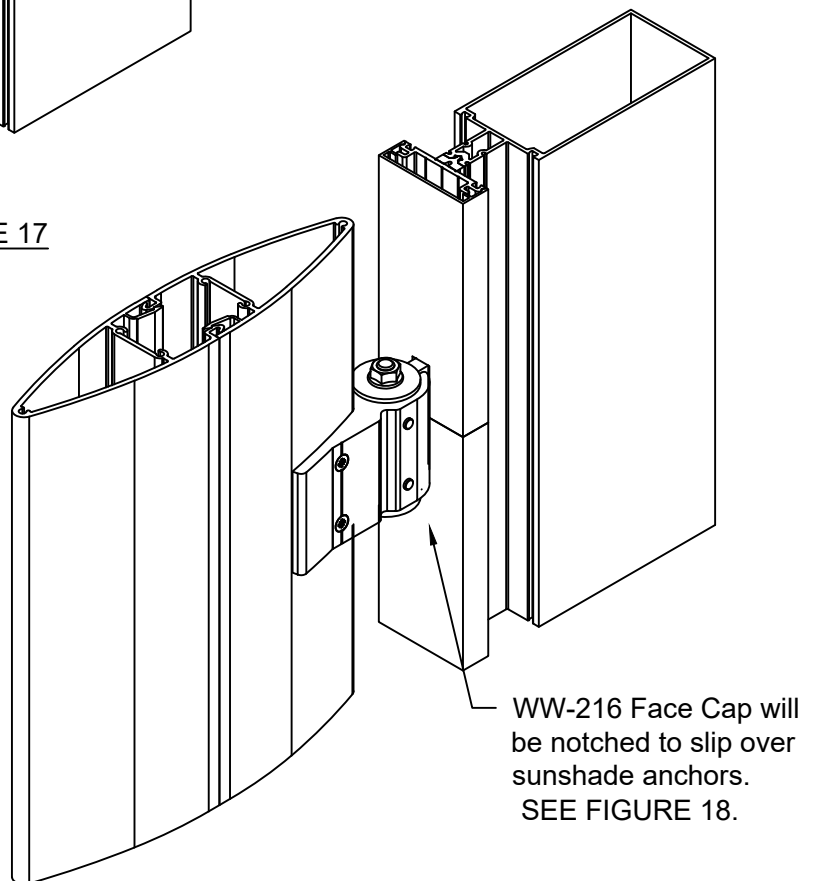

FIGURE 19
- 11) Final assembly of Solar Eclipse II is shown in FIGURE 19 below.